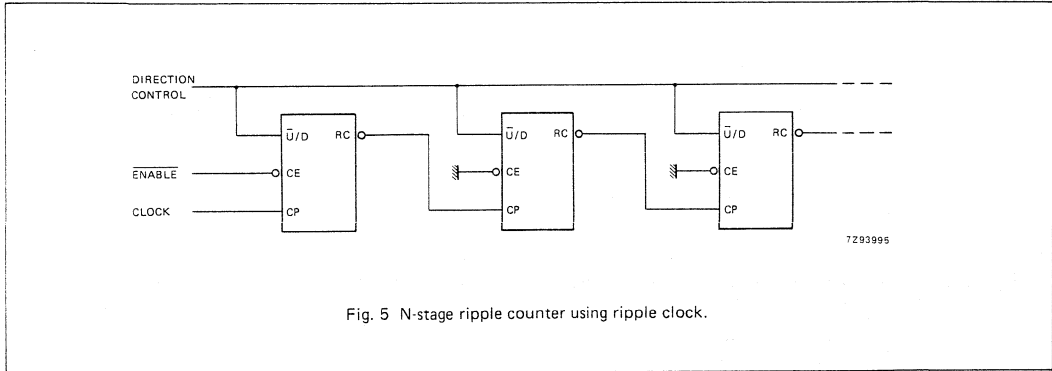
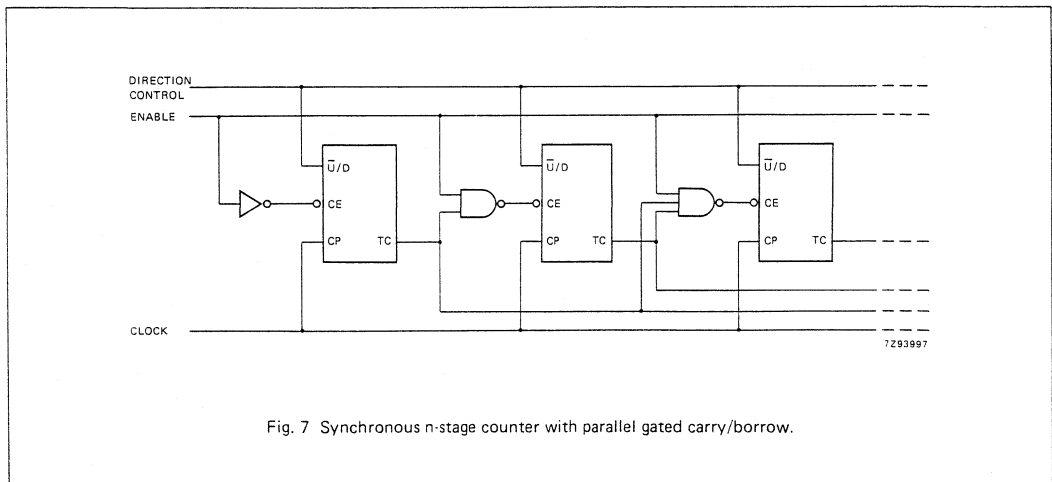

Fig. 5 N-stage ripple counter using ripple clock.
Fig. 7 Synchronous n-stage counter with parallel gated carry/borrow.
Overflow/underflow indications are provided by two types of outputs, the terminal count (TC) and ripple clock (\overline{RC}). The TC output is normally LOW and goes HIGH when a circuit reaches "15" in the count-up mode or reaches "0" in the count-down mode. The TC output will remain HIGH until a state change occurs, either by counting or presetting, or until $\overline{U/D}$ is changed. Do not use the TC output as a clock signal because it is subject to decoding spikes. The TC signal is used internally to enable the \overline{RC} output. When TC is HIGH and \overline{CE} is LOW, the \overline{RC} output follows the clock pulse (CP). This feature simplifies the design of multistage counters as shown in Figs 5 and 6.
In Fig. 5, each \overline{RC} output is used as the clock input to the next higher stage. It is only necessary to inhibit the first stage to prevent counting in all stages, since a HIGH on \overline{CE} inhibits the \overline{RC} output pulse as indicated in the function table. The timing skew between state changes in the first and last stages is represented by the cumulative delay of the clock as it ripples through the preceding stages. This can be a disadvantage of this configuration in some applications.
In Fig. 7, the configuration shown avoids ripple delays and their associated restrictions. Combining the TC signals from all the preceding stages forms the \overline{CE} input for a given stage. An enable must be included in each carry gate in order to inhibit counting. The TC output of a given stage is not affected by its own \overline{CE} signal therefore the simple inhibit scheme of Figs 5 and 6 does not apply.